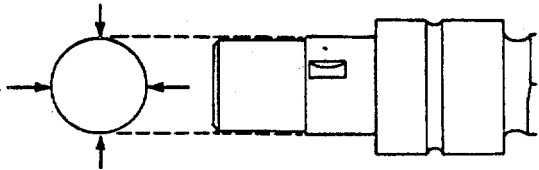

FIGURE 4-27. Measuring Camshaft Nose.
- (f) Measure the camshaft nose in the gear press fit area (Figure 4-27).
- (3) Install the gear onto the camshaft.